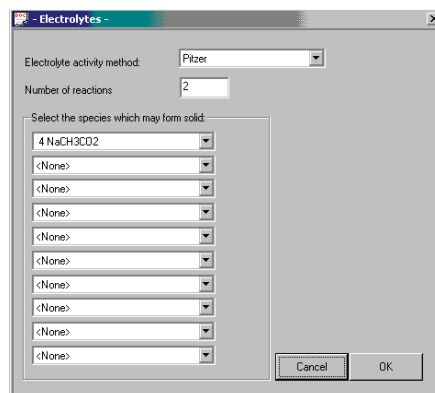

Figure 2: General Electrolyte Dialog
6. In the General Electrolyte dialog, add 1 to the 'n of reactions' and choose NaCH_3CO_2 as 'may form solid', as shown on figure 2. This selection allows CHEMCAD to consider this component as a possible salt/precipitate.